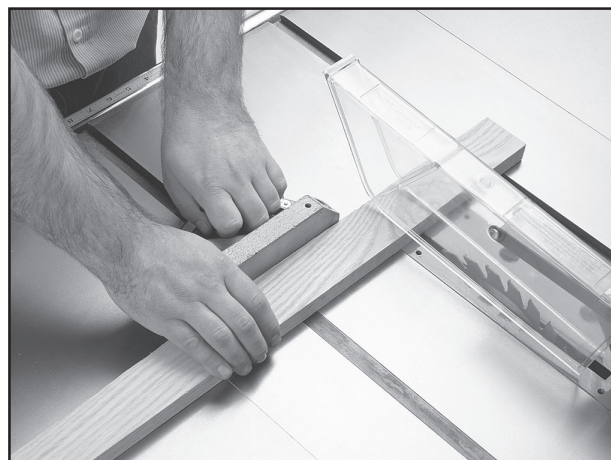

Figure 37. Crosscut operation.
4. Hold the workpiece firmly against the face of the miter gauge and ease it through the blade as shown in **Figure 37**.